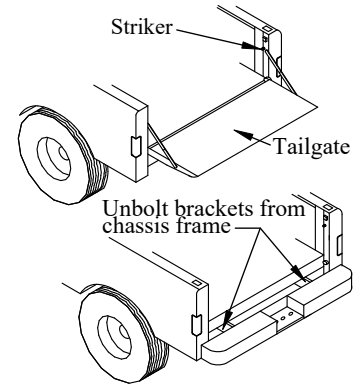

Figure 5: Remove hardware.
1. **Remove** the tailgate (Figure 5).
2. **Remove** and **Save** the tailgate strikers (Figure 5). Each striker has a washer that will be reused.